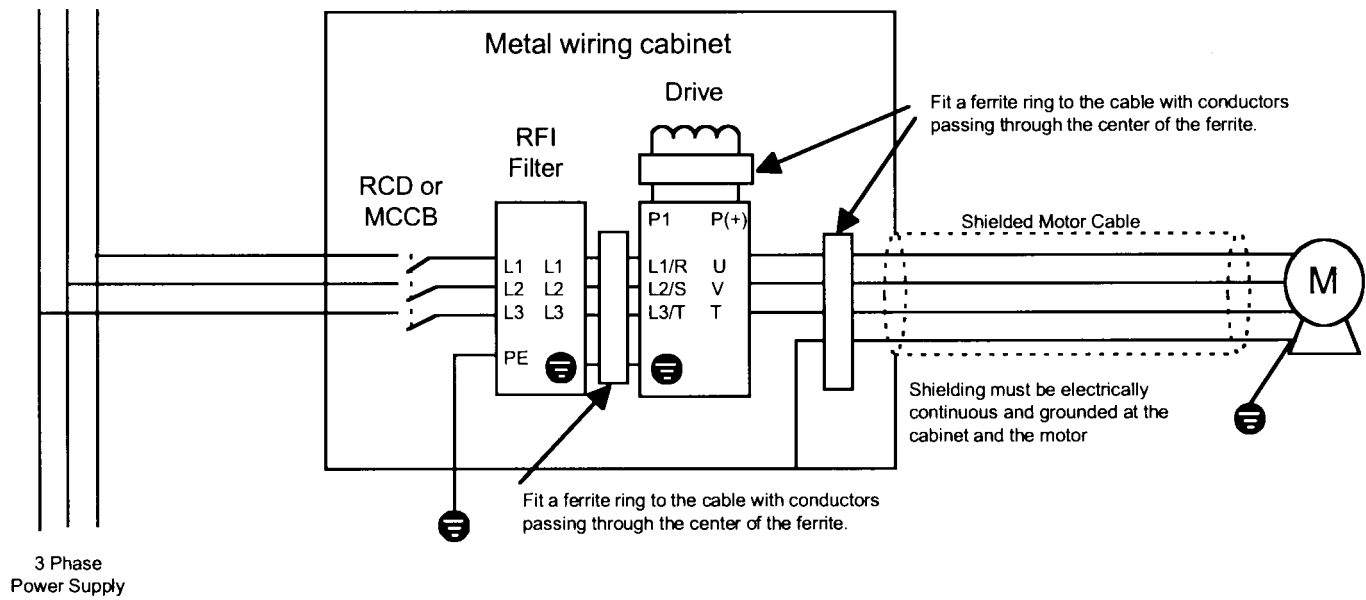

Figure 7 AF-300 G11 460V 400 Hp and higher
- 6) In the case where a ferrite ring is provided with the filter, fit the ferrite ring so the conductors pass through the center of the ferrite. Wire the cable according to Fig.6 or Fig.7 , paying attention to the applied Drive type.